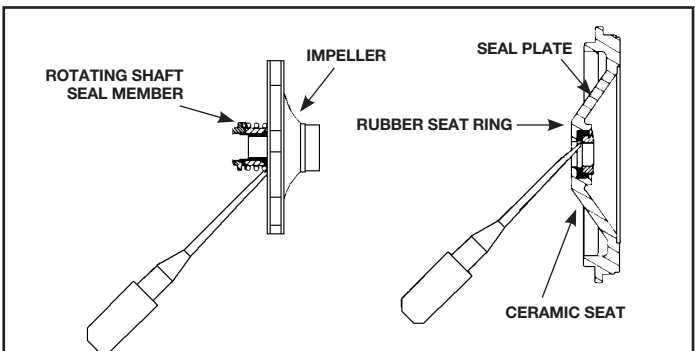

Figure 9 - Removing Shaft Seal and Ceramic Seat
- Pry the rotating shaft seal member (including stainless collar and rubber seal) from the impeller (Figure 9).
- Push or pry the ceramic seat, and rubber seat ring free from the seal plate (Figure 9).